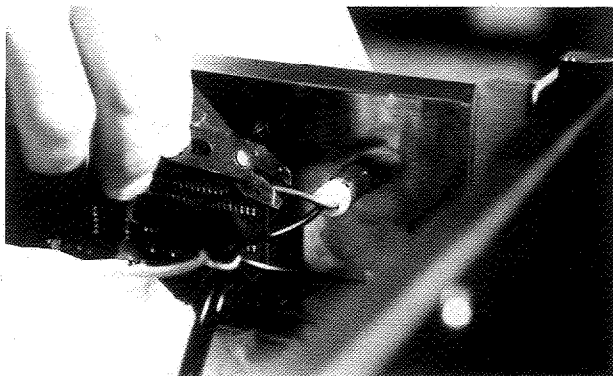

Figure 7
3. Cut the telite wires just behind the body of the light. (See Figure 7)